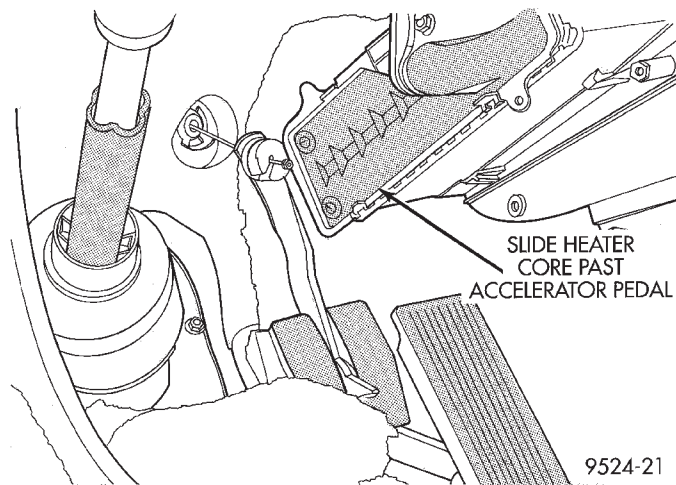

Fig. 36 Accelerator Pedal
(10) Pull up on accelerator pedal and slide heater core past (Fig. 36).